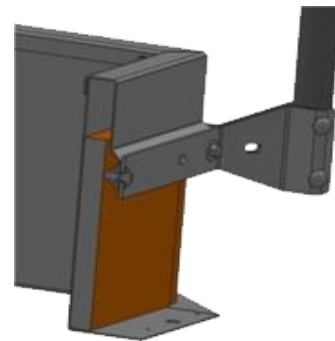

Figure3
- The railing brackets are designed for mounting on the counterflash of the roof hatch. See Figure 3. **Do not mount brackets through the roof hatch curb or through roofing material.**
- Mark the mounting holes on each corner and drill 1/2" diameter holes. Remove 3/8-16 nut and bolt (20, 30) from bracket halves (10).
- Fasten to the corner on counter flashing using 3/8-16 x 3/4" bolts (30), washers (40) and threaded nut plate (50), which is placed behind the counterflash for quick, easy installation.
- Align and hold the threaded nut plate (50) behind the counter flash.
- Screw the 3/8-16 x 3/4" bolts (30) and washers (40) through the bracket and into the threaded nut plate.
- Insert the 35" upright post (60) into the installed brackets and insert the 3/8-16 x 3" bolts (70). Tighten the bolts using the 3/8-16 nuts (20).